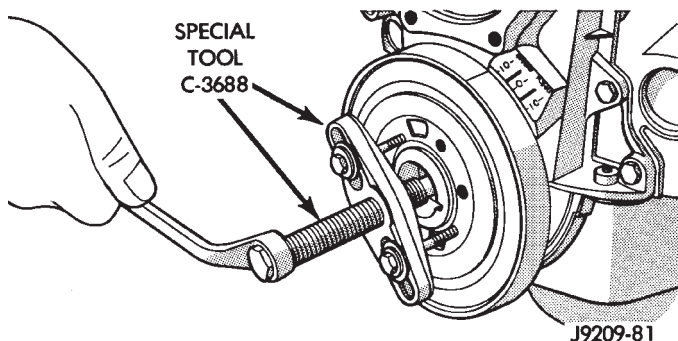

Fig. 25 Vibration Damper Assembly
(6) Remove vibration damper bolt and washer from end of crankshaft.
(7) Install bar and screw from Puller Tool Set C-3688. Install 2 bolts with washers through the puller tool and into the vibration damper (Fig. 25).